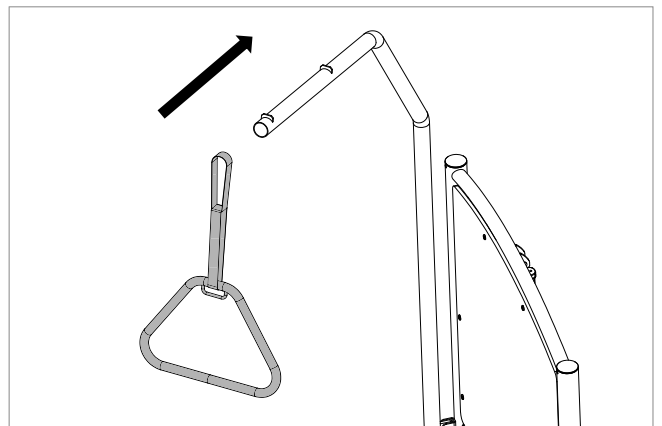

Figure 6.7
6. Spread open the loop of the Fixing Belt and slide over the Lifting Pole (see Figure 6.7).